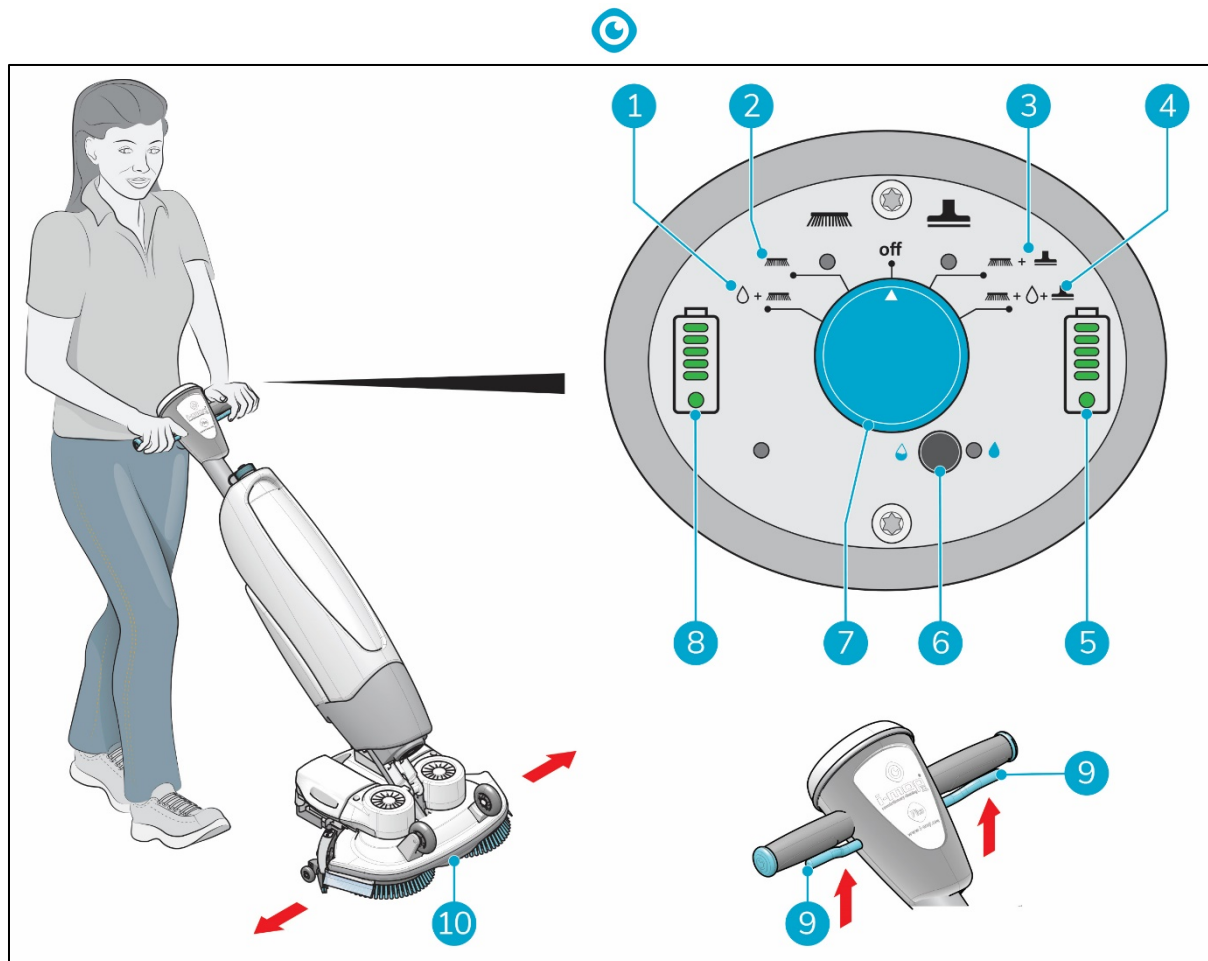

Figure 17
5. Choose your cleaning mode via the main switch (Figure 17, pos 7). This will also turn on the i-mop XXL plus.
- MODE 1: Brush + water/cleaning solution (Figure 17, pos 1).
- MODE 2: Brush only (Figure 17, pos 2).
- MODE 3: Brush + vacuum (Figure 17, pos 3).
- MODE 4: Brush + water/cleaning solution + vacuum (Figure 17, pos 4).
7. Squeeze the trigger on the handle (Figure 17, pos 9).
10. Steer by gently turning the handle left or right to move the scrub deck (Figure 17, pos 10).
11. Releasing the trigger (Figure 17, pos 9) will immediately stop the i-mop XXL plus. The vacuum motor will stop after 3 seconds.